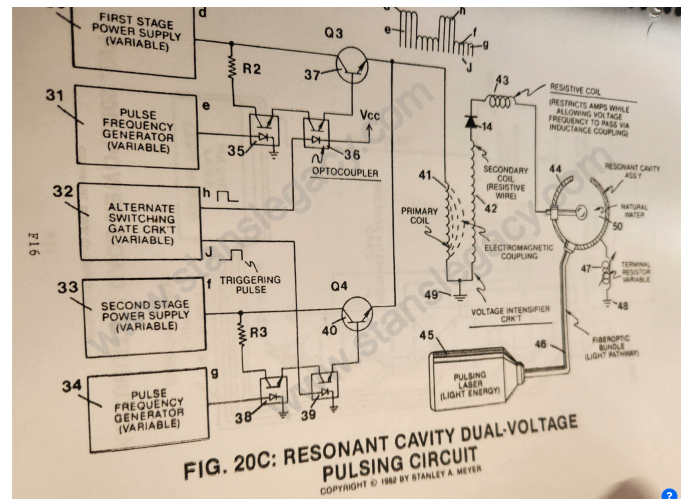
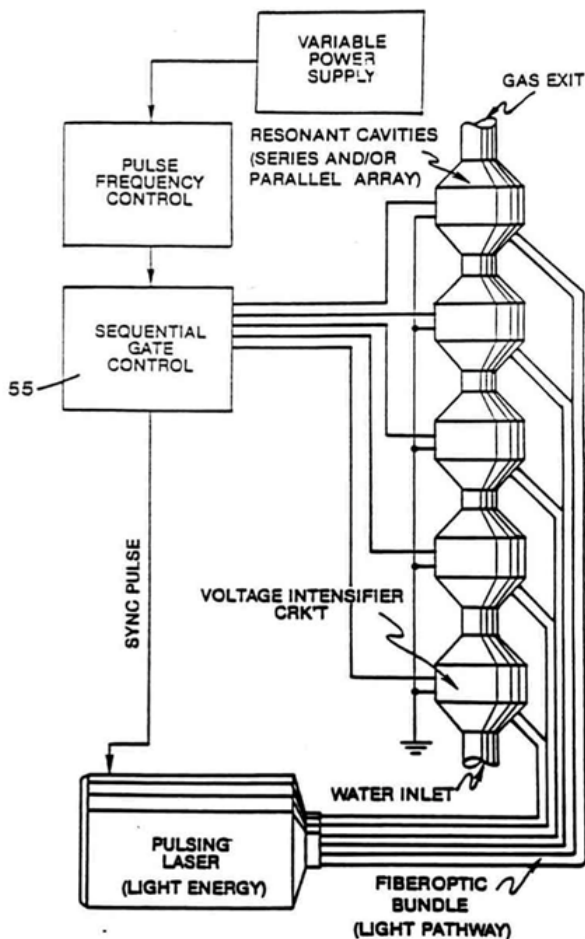

FIG. 20C: RESONANT CAVITY DUAL-VOLTAGE PULSING CIRCUIT
FIG. 20D: POWER LOAD DISTRIBUTION
Laser or **light energy** (45) of Figure 20C and Figure 20D is now injected into said high intensity voltage zones to help cause said liberated gas atoms (remember ambient air gases are also being released from said water) to reach said gas ionization state.
Said ionized gases enter into other resonant cavities (see Figure 20D as to Figure 20C again) in stacked relationship (exit port to inlet port) undergoing the same gas ionization process.